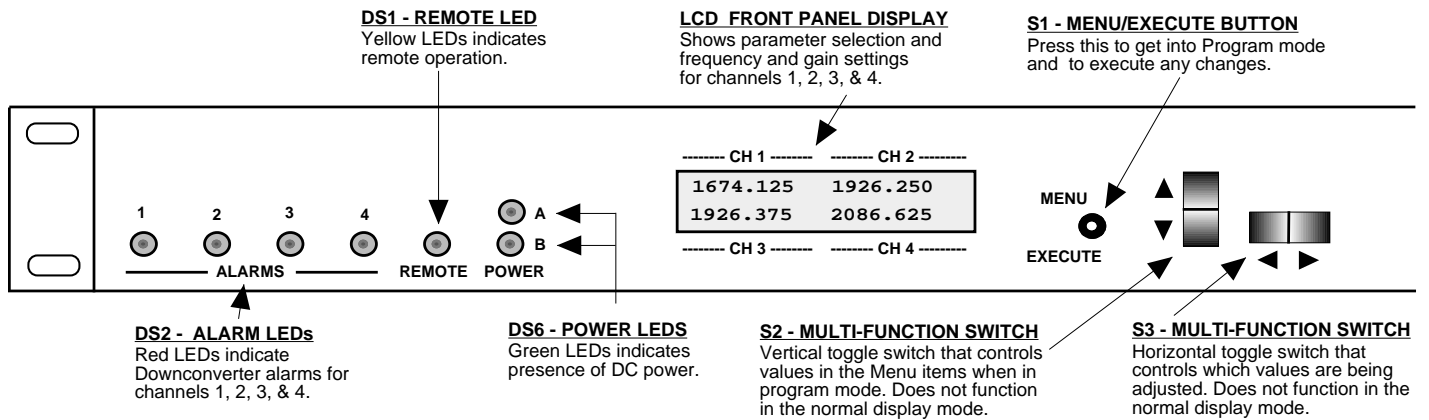

FIGURE 2.3 2416-x02 Front Panel Controls and Indicators
6. Be sure DS6 (green, DC Power, PSA, PSB) is on and DS2 (red, Alarm) is off (Figure 2.3).
1. Menu/Execute - Any change to the programming of the unit must be initiated by pressing the Menu/Execute switch and completed by pressing the Menu/Execute switch (Figure 2.3).
2. Horizontal Switch - This switch is mounted so its movement is horizontal and moves the cursor left or right (Figure 2.3).
- a. During frequency, gain changes, the vertical movement will raise or lower the number in the direction of the arrows (Figure 2.3).
Alarm indications appear on the LEDs (See figure 2.3). An alarm condition will occur if any local oscillator phase lock loop (PLL) comes out of lock. The Remote LED will light when you select the Remote mode.